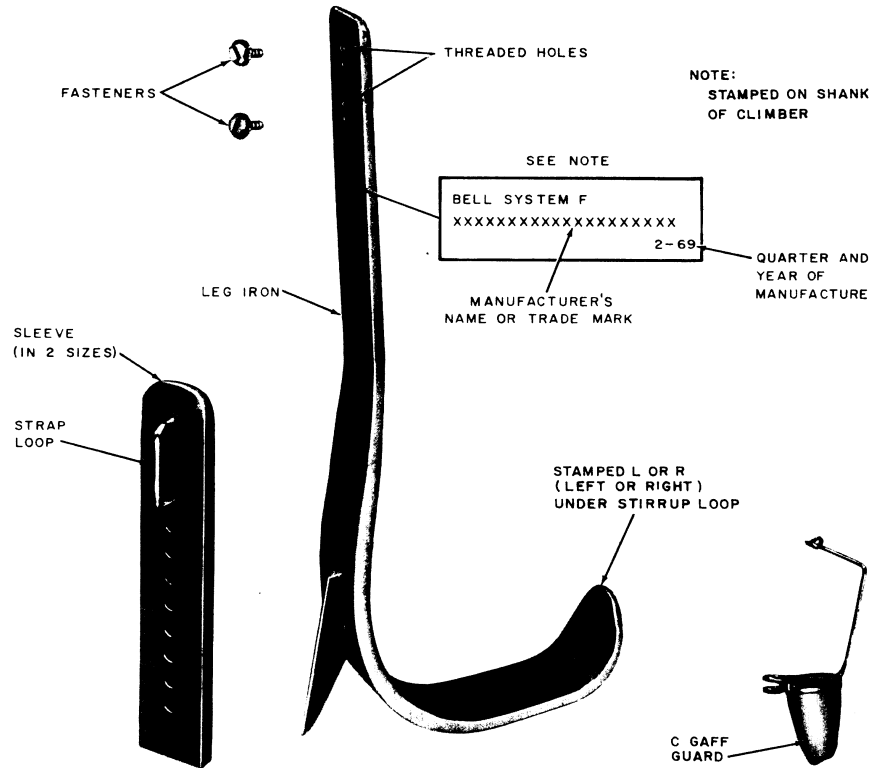

Fig. 1—Parts for F Climber
2.01 The F climber is an adjustable length climber that consists of a leg iron, an adjustable sleeve, fasteners and gaff guards. The parts of an F climber are shown in Fig. 1.